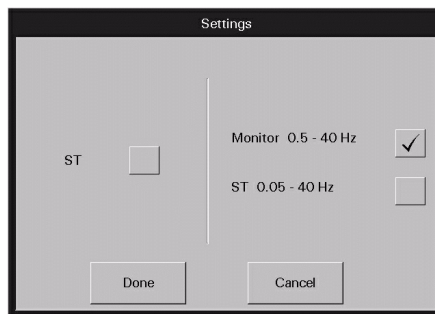

FIGURE 5-12 Settings Dialog Box
1. From the **Demographics** tab, select the **Settings** sidebar button. The **Settings** dialog box (shown in FIGURE 5-12) is displayed.